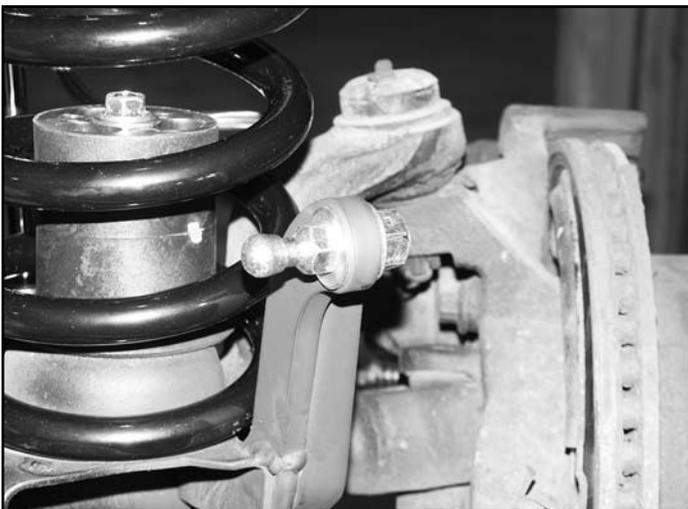

FIG. 26
64. When the paint is dry on the new link mounts, install the provided disconnect ball studs (01302) in the mounts so that the ball portion points toward the center of the vehicle (Fig 26). Install the stud with a 1/2" lock nut and two 1/2" SAE washers (BP 718), one on each side of the mount. Torque stud to 60 ft-lbs.